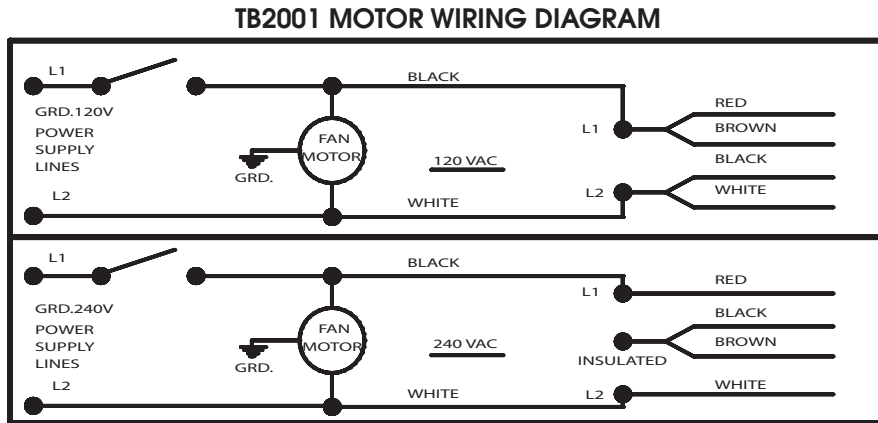

Figure 3 – Wiring Diagram – 120V and 240V, 60 Hz
3. Make proper wiring connections. See Figure 3.